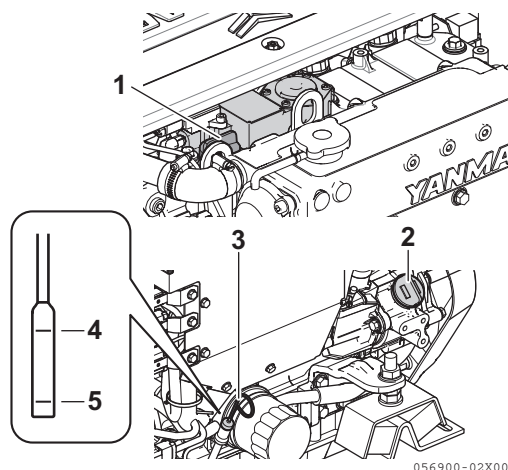

Figure 6
2. Remove dipstick (**Figure 6, (3)**) and wipe with clean cloth.
4. Remove dipstick. The oil level should be between upper (**Figure 6, (4)**) and lower (**Figure 6, (5)**) lines on the dipstick.
1. Remove the yellow oil filler port cap from filler port (**Figure 6, (1) (2)**) and fill with engine oil.
2. Fill with oil to the upper limit (**Figure 6, (4)**) on the dipstick (**Figure 6, (3)**).